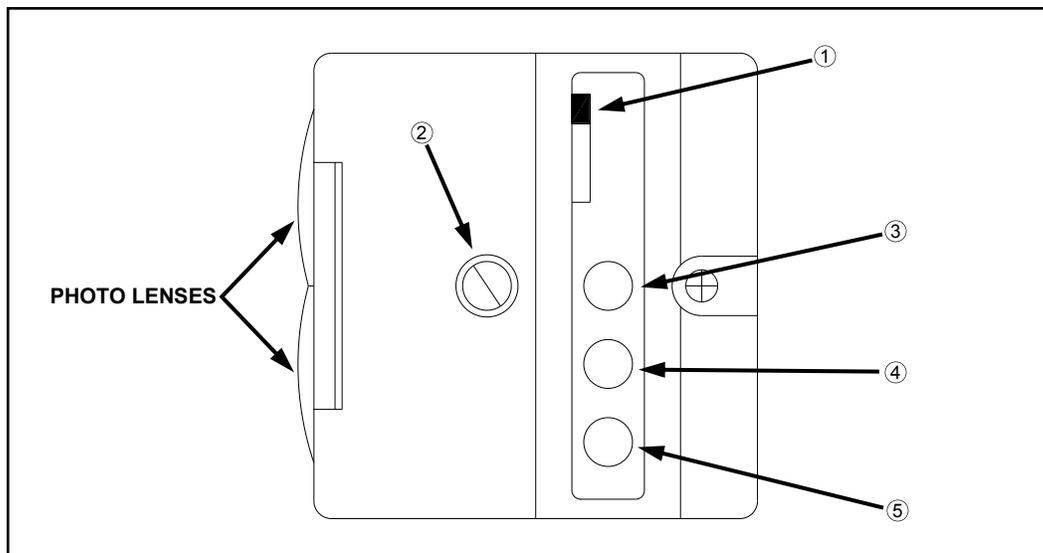

FIG 5.57
The upper and lower LS photolights (fig. 5.55) have L.E.D. lights (fig. 5.57) that indicate their operational status.
**LT/DK SWITCH** – Light/Dark switch on photolight (fig. 5.57, item 1) changes the activated condition of green L.E.D. (see below) from *ON* (“LT”) to *OFF* (“DK”). Switch does not affect the functional operation of the light, only how it is displayed. Switch should be set to “LT”.
**SENSITIVITY ADJUSTMENT SCREW** – Sensitivity adjustment screw (fig. 5.57, item 2) should always be set to maximum.
**YELLOW L.E.D.** – Yellow L.E.D. (fig. 5.57, item 3) indicates power on.
**GREEN L.E.D.** – Green L.E.D. (fig. 5.57, item 4) indicates output energized (sending a signal to Tassel-trol® box, opening the raise or lower stack valve).
**RED L.E.D.** – Red L.E.D. (fig. 5.57, item 5) indicates photolight is receiving reflected signal.